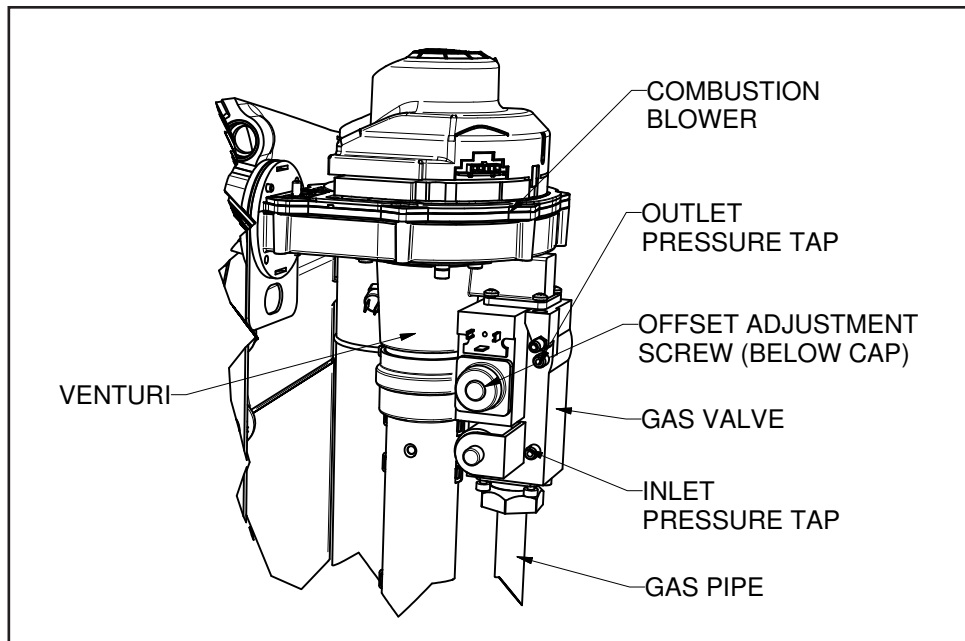

Figure 25. Gas valve adjustment.
3. Remove the cap that covers the gas valve offset screw (see figure 25 for location). Adjust the low fire CO₂ to be 0.2% lower than the recorded high fire CO₂. Turn the offset clockwise to increase the CO₂ value. Turn the offset counter-clockwise to decrease the CO₂ value. Replace the offset cap when adjustment is complete.